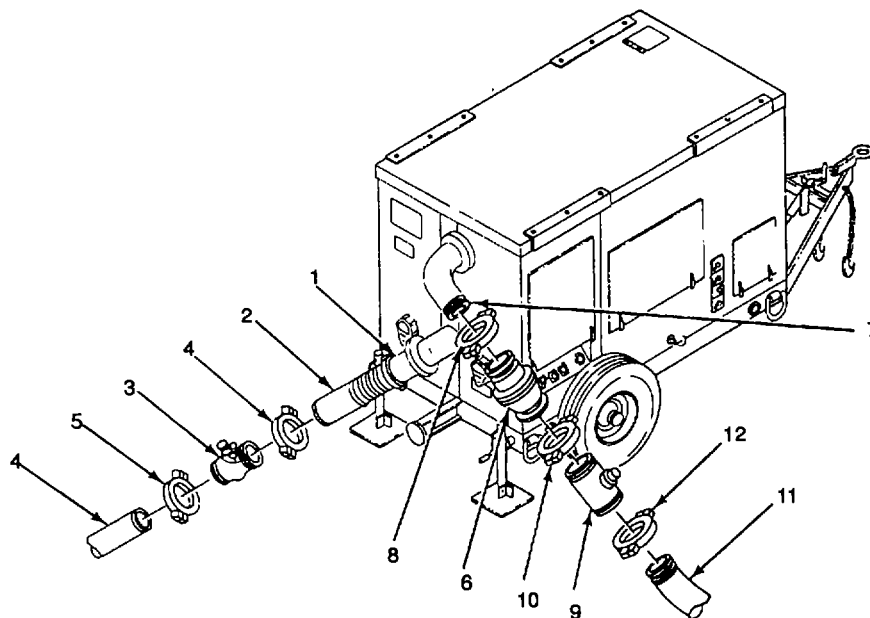

Figure 2-16. Lead Pumping Assembly
- (1) Locate 6-inch boltless coupling (1) connecting hoseline lengths where pressure-reducing valve is to be installed.
- (2) Locate 6-inch pressure-relief valve (2) with attached 6-inch boltless coupling (3). Remove 6-inch boltless coupling (3) (para. 2-8.c.).
- (3) Install 6-inch pressure-relief valve (2) on inlet connection (4) of pressure-reducing valve. Use 6-inch boltless coupling (3) removed from pressure-relief valve (2) in step (2).
- (4) Connect upline hoseline length (5) to 6-inch pressure-relief valve (2). Use 6-inch boltless coupling (1) from hose connection in step (1) above (para. 2-8.b.).
- (5) Connect downline hoseline length (6) to outlet connection (7) on pressure-reducing valve with 6-inch boltless coupling (8) (para. 2-8.b.).
- (6) Place isolation cock valves (9) in open position.
h. Assemble Lead Pumping Station. Perform the following (Figure 2-16):
Personal injury may result from high pressure water if pressure-relief valve faces butterfly valve. Ensure pressure-relief valve is installed as shown in Figure 2-16 to avoid personal injury.